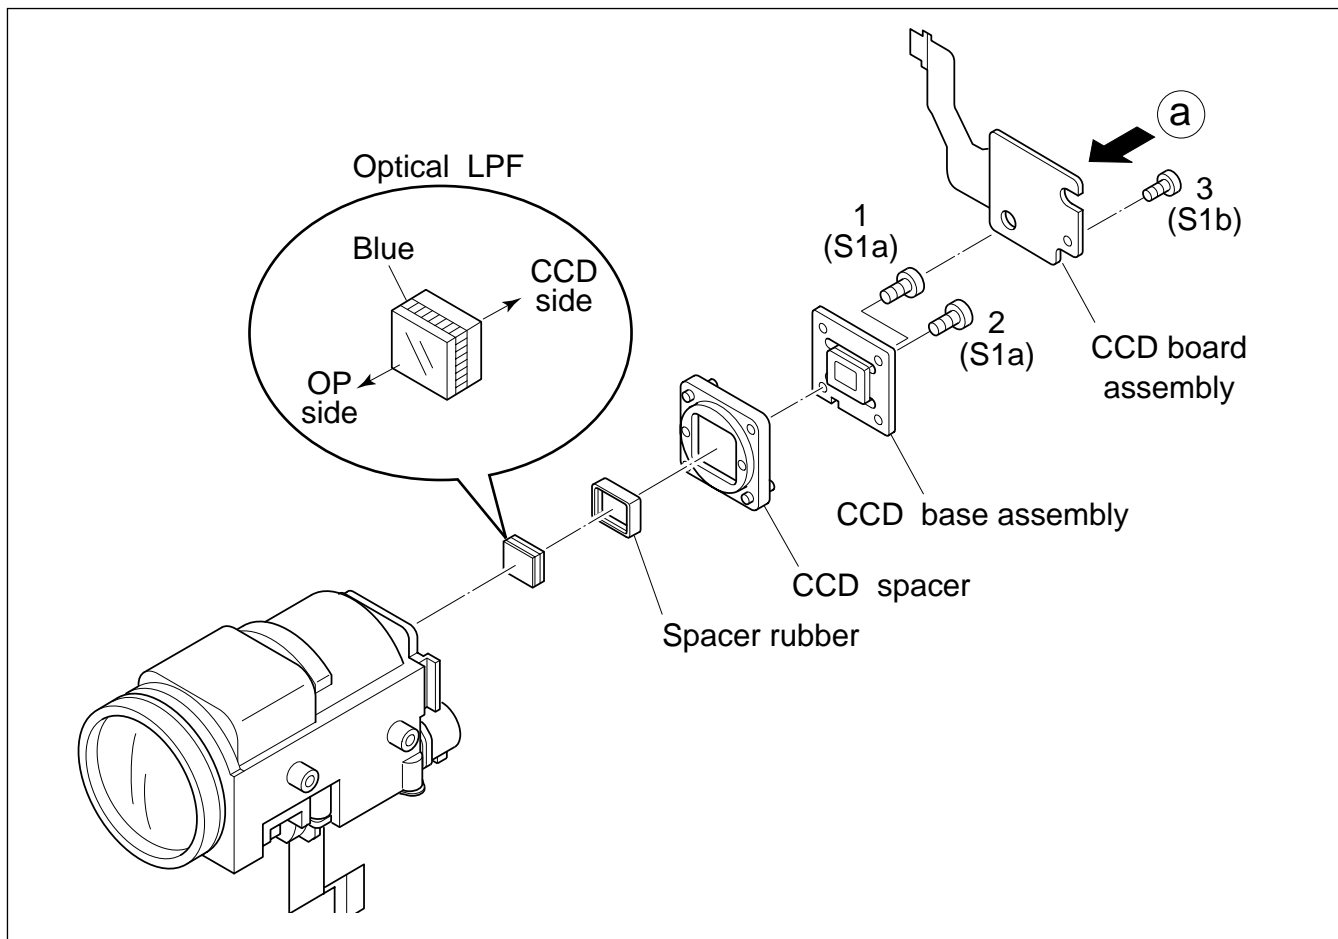

Fig. 1-5-1
1. Remove the protection seal from a new CCD image sensor. Next, put the optical LPF, spacer rubber, CCD spacer on the CCD image sensor as they are piled up in this order. At that time, make sure of orientation of each item referring to the following table (see Fig. 1-5-1).